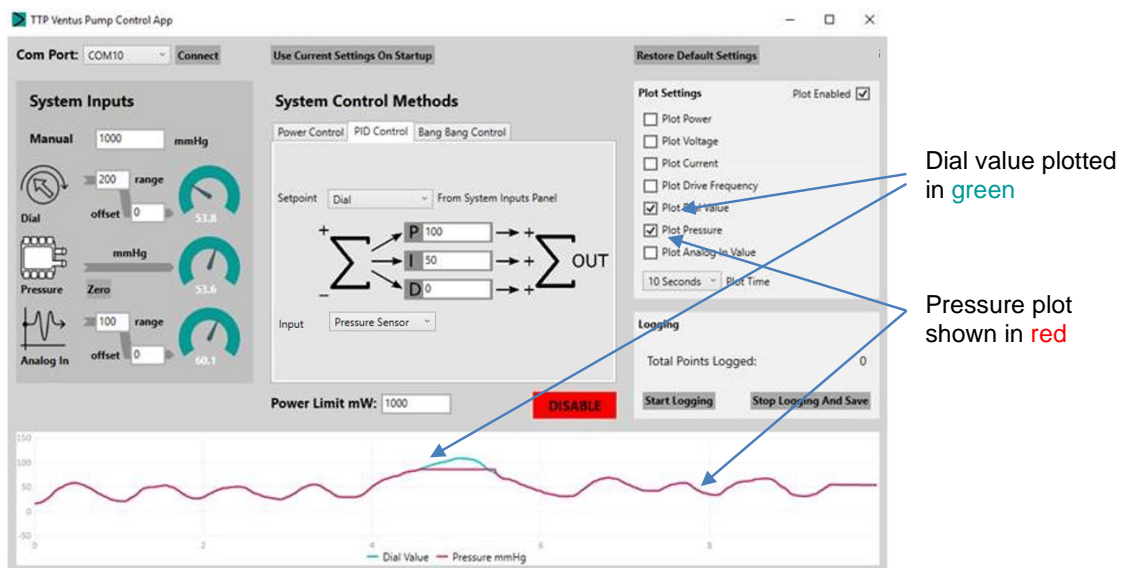

Figure 11: GUI showing PID control set up
3. In the second drop down box below the PID variables, select Pressure Sensor. (This is the variable which is controlled by the PID loop to match the control input). See Figure 11 for further details.
Figure 11 shows how the output pressure profile matches the setpoint dial value (our simulated analogue input) exactly. The only time the waveforms do not match is when the pump is asked to produce a pressure higher than it is cable of achieving against the vent orifice and within the constraints of the power limit set in the software.